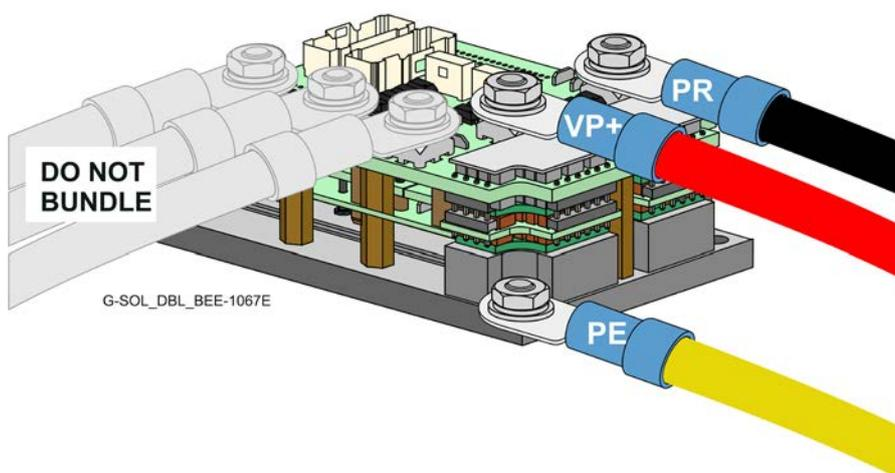

Figure 10: Connecting the Main Power Wires
3. Connect the VP+ and PR wires to the terminals on the servo-drive as shown in Figure 10. It is highly recommended to twist the two DC main power cables at intervals of 10 cm.